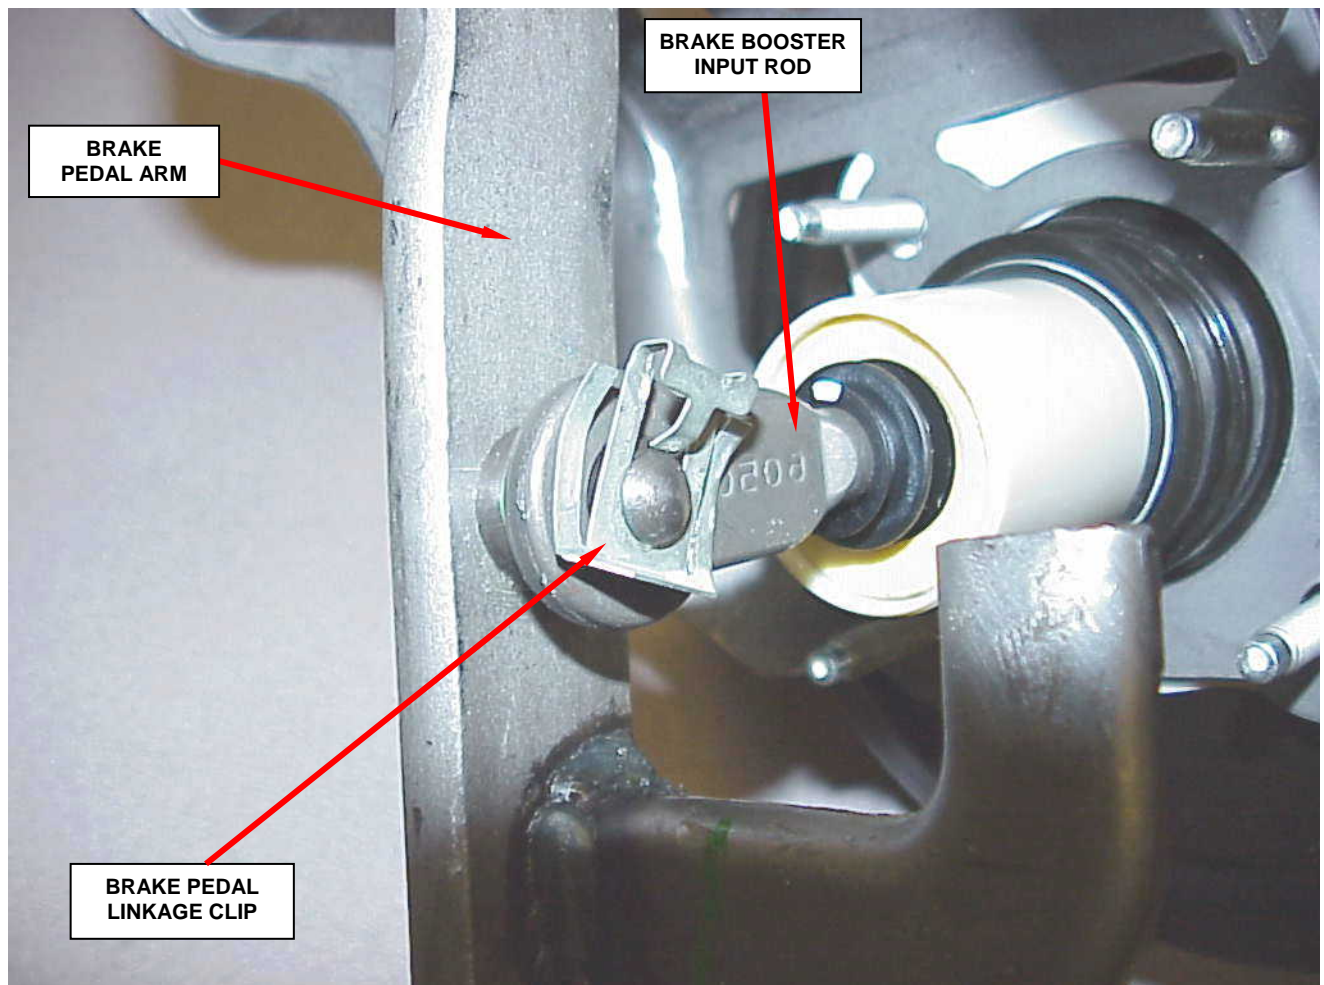

Figure 1 – Inspect for Missing Brake Pedal Linkage Clip
2. Looking up under the instrument panel, by the brake pedal arm, inspect for the presence of a brake pedal linkage clip at the brake booster input rod (Figure 1):